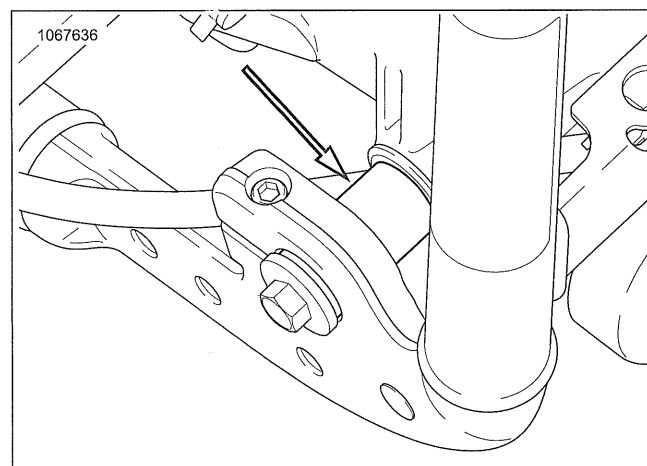

Figure 4-15. Spacer Installed Properly
3. See Figure 4-15. Verify spacer is installed properly.